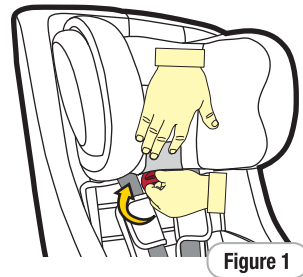

Figure 1
Step 2: To adjust the headrest, lift the "TrueFit" flap on the headrest cover. Turn the red "TrueFit" knob clockwise to unlock the headrest (refer Figure 1).